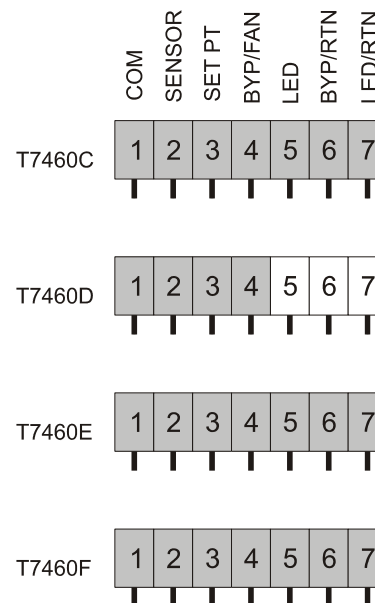
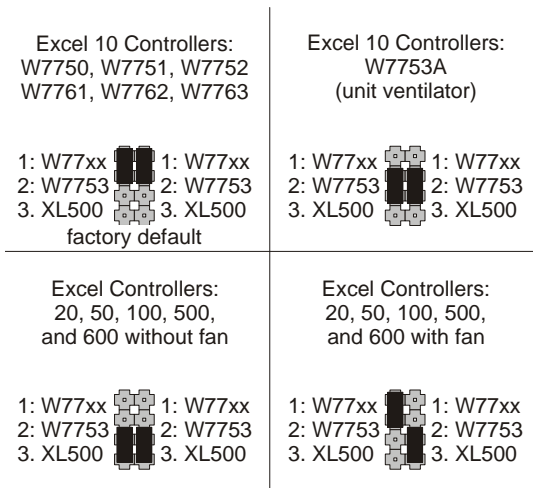

Fig. 7. Wiring diagram for T7460C,D,E,F Wall Modules (for the jumper settings, see Fig. 8)
Fig. 8. Jumper settings for T7460C,D,E,F Wall Modules
Attach the wires from the device sensor terminals to the appropriate wall module terminals and set the jumpers according to the connected controller. See Fig. 6 through Fig. 8.
3. Verify jumper setting with Fig. 8 and wall module wiring with Fig. 6 and Fig. 7.